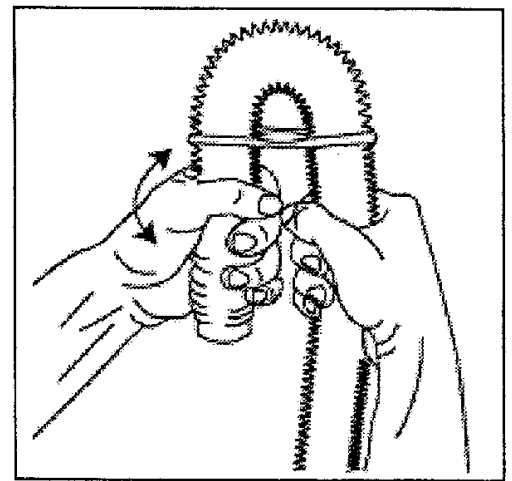

Figure 1-5
8. Install gooseneck end of drain hose into drain standpipe. Be sure the connection is not airtight between the drain hose and the standpipe. **Standpipe must be at least 36" high.** If the hose is twisted after it has been placed into the standpipe, adjust the end of the hose to remove the twist. To remove the twist, turn the short end of the hose while holding the base of the hose stationary. (Figure 1-5)